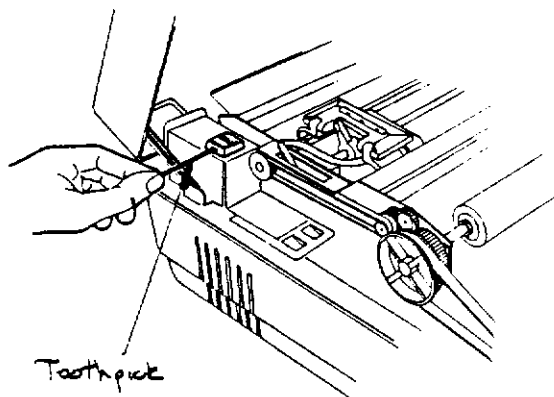

Figure 2-18. Removing the Fuse.
5. Pull the paper up until it reaches past the tractors. Engage the holes in the paper with the pins on the tractor belts. See figure 2-18.
There is a fuse holder at the left rear of the printer, inside the cover. Figure 2-18 shows how to remove the fuse, using a non-metallic object such as a toothpick. Fuses occasionally fail just from aging. If the fuse blows, you may replace it once; if it immediately blows again, it is best to refer the problem to a competent service technician.